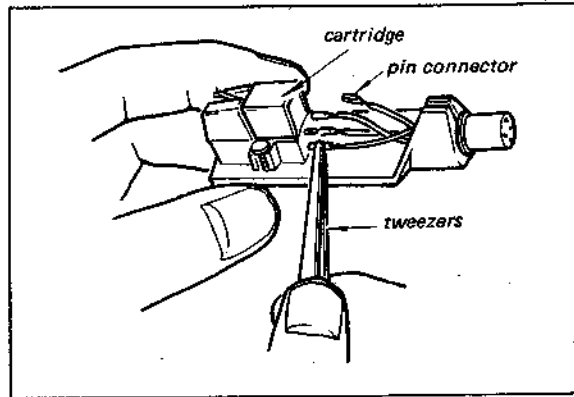

Fig. 2-13. Pin connector removal
2. Unplug the four pin connectors at the cartridge as shown in Fig. 2-13.